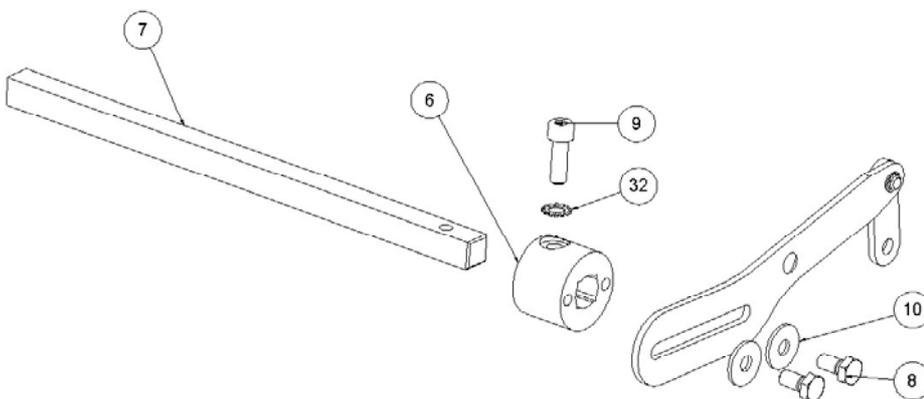

Figure.2
3. **ARMS AND HANDLES ASSEMBLY:** Each arm (7) must be joined to an arm support (6) through a M8 x 25 DIN 912 screws (9) and a serrated washer DIN 6798 M8 (32). Once together, they must be joined to a handle through two M8 x 16 DIN 933 screws (8) and two washers DIN 9021 M8 (10), making sure that the countersink of the handle is on its inner face, – Fig. 2 –.